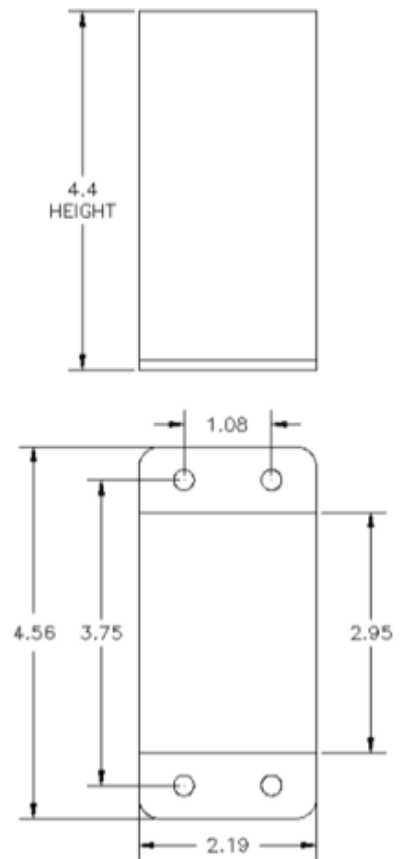

FIGURE A5.5: 47268 Smart Monitor dimensions.
2. Mount the Smart Monitor inside an existing control panel or other suitable protective enclosure. See Figure A5.5 for Smart Monitor mounting dimensions.